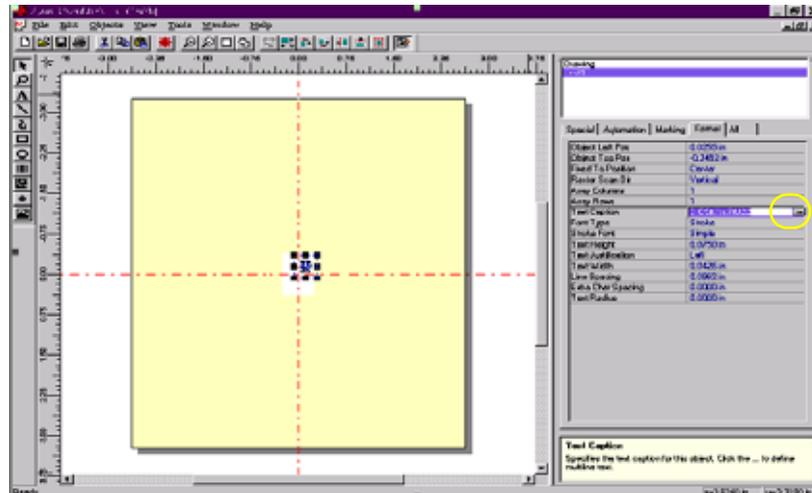

Figure 3-78—Click ellipses
- 2a) On the Format tab, click the ellipses to the right of the Text Caption field. See *Figure 3-78*.